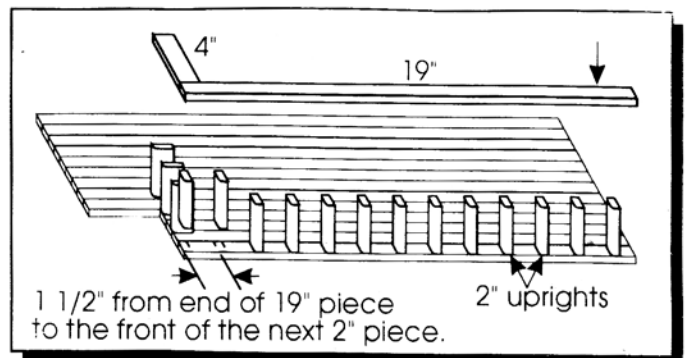

Figure 23- Loft Railing
a. Glue one 19", one 4", and sixteen 2" pieces as shown in Figure 23.